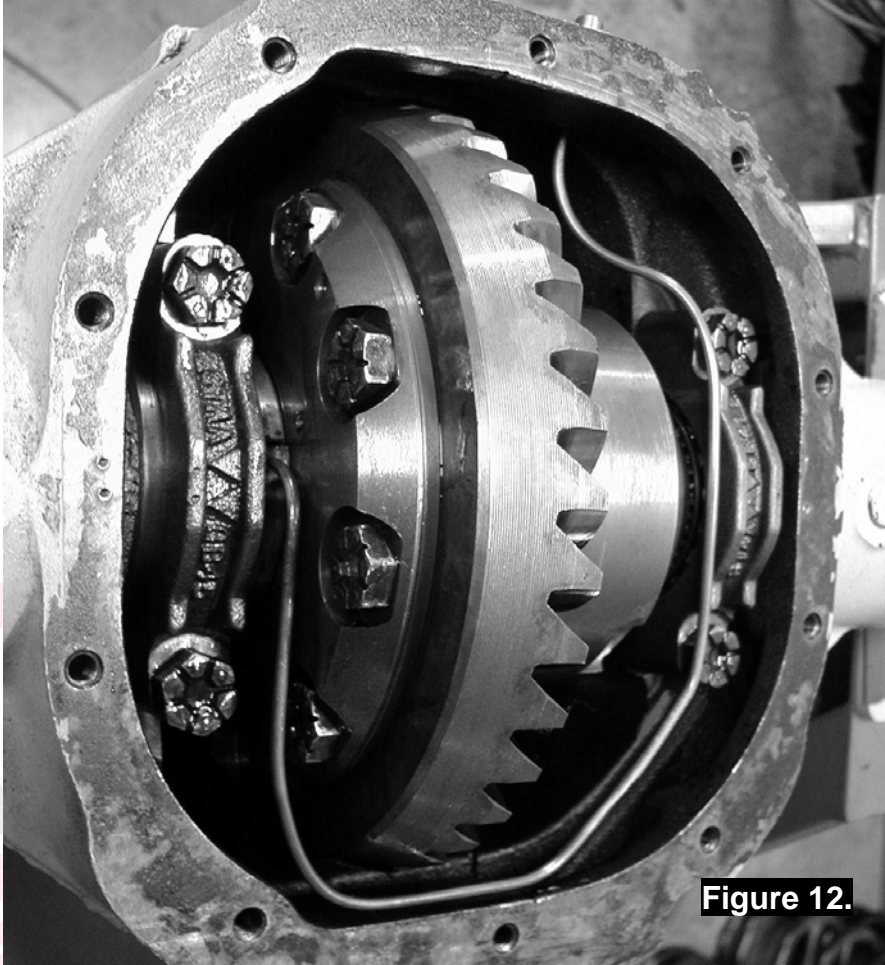
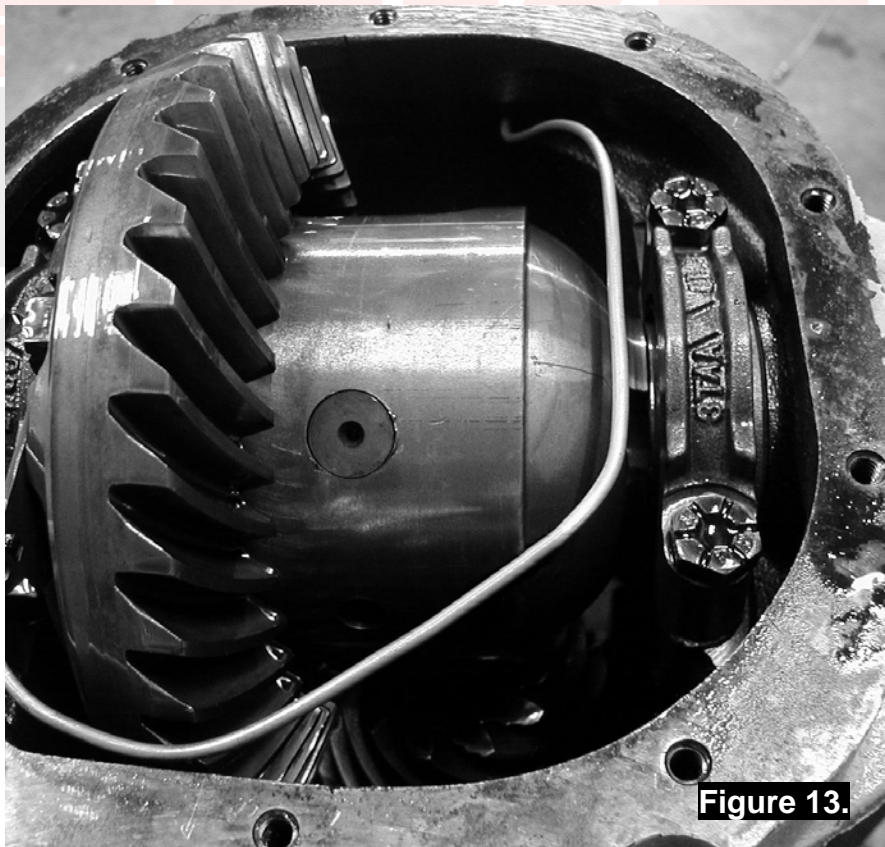

Figure 12.
Figure 13.
- Without using sharp, jagged tools such as pliers (usually your hands are the best tool for this job), bend the seal housing tube so that it runs under the ring gear and upwards protruding through the bulkhead port in the differential housing. (Fig. 12. & Fig. 13.)